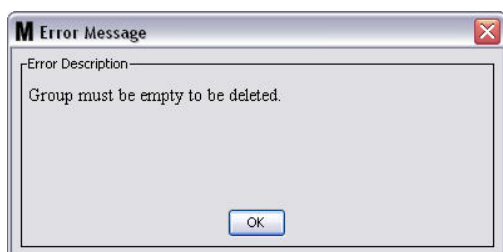

FIG. 130
- a. If there are tanks and/or meters in the Group Folder the Error Message box in FIG. 130 displays reminding you that the folder must be empty before you can delete it. Click OK to close the screen and save the changes.